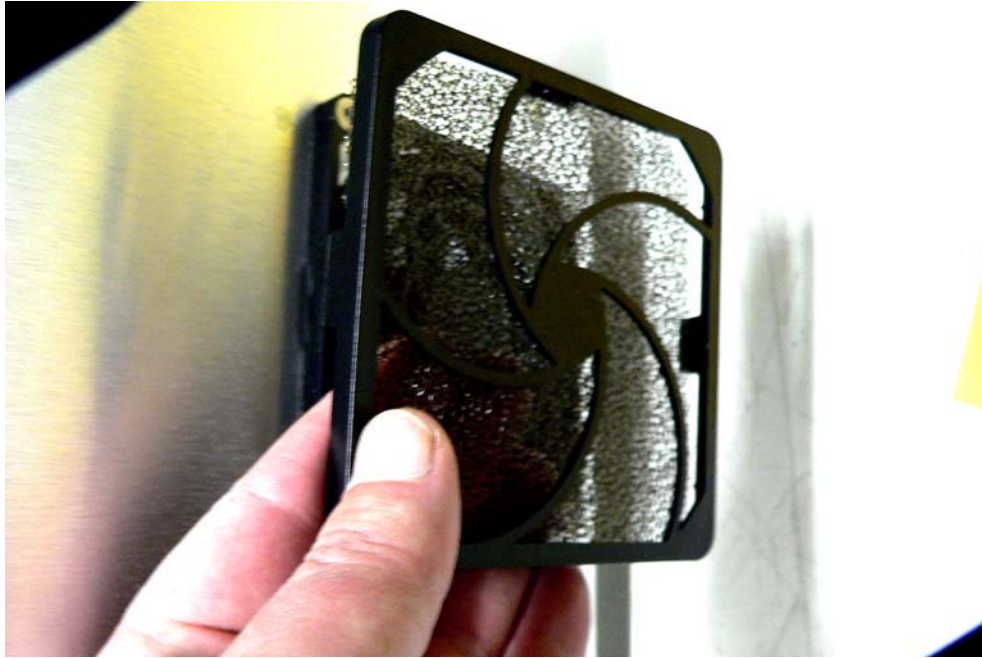

Figure B-11 Fan Filter
5. Remove the fan filter (Figure B-11).